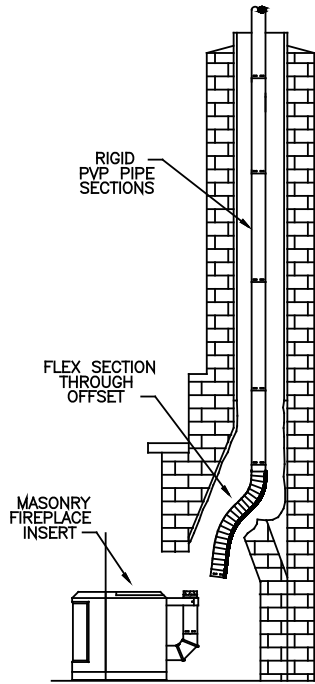

Figure 19
7. Repeat this process for the remainder of the pipe sections, and lower the assembly down the chimney as shown in (Figure 19).